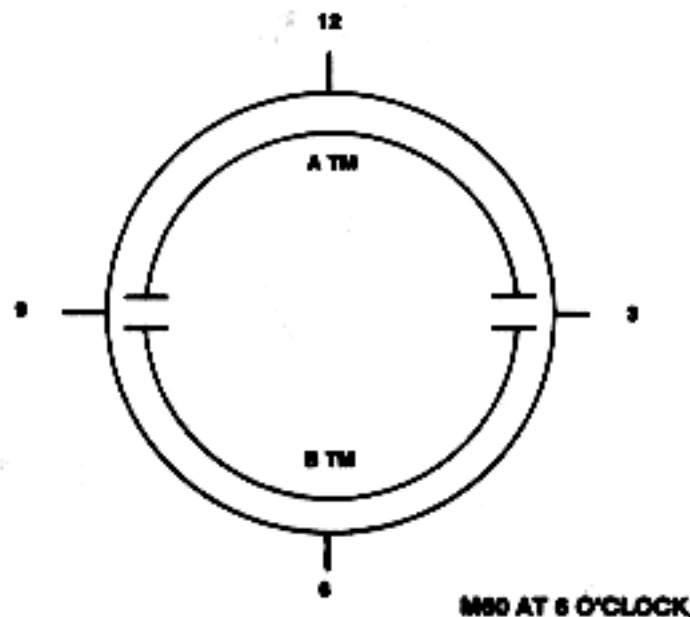
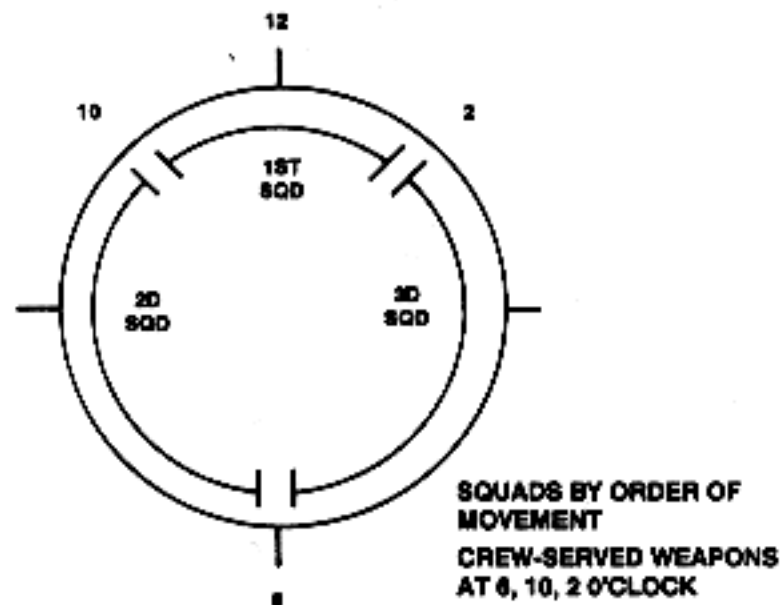

Figure 5-10. Squad ORP Clearance
Figure 5-11. Platoon DRP Clearance.
- Unit occupies ORP using clock method IAW figure 5-10 for squads and figure 5-11 for platoons. Direction of movement is 12 o'clock. Perimeter is adjusted as required.